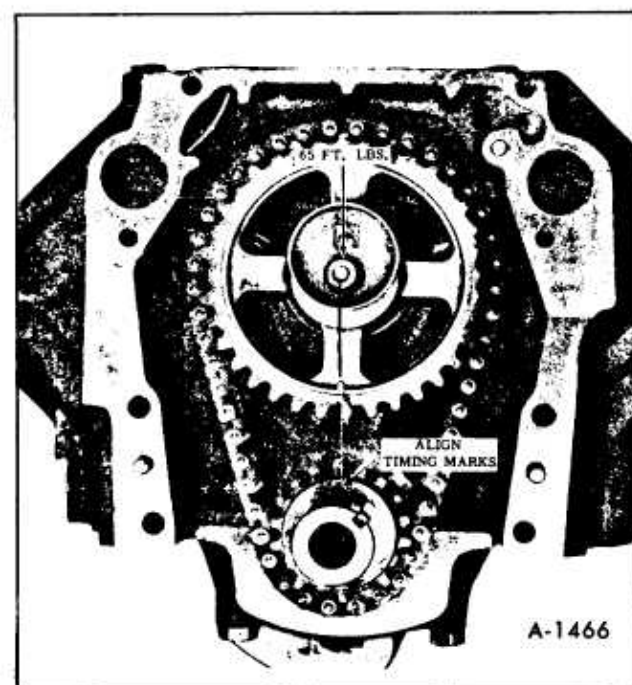

Figure 54—Timing Gear Position
1. Install camshaft gear crankshaft gear and timing chain together, and then align timing marks as shown in Figure 54.